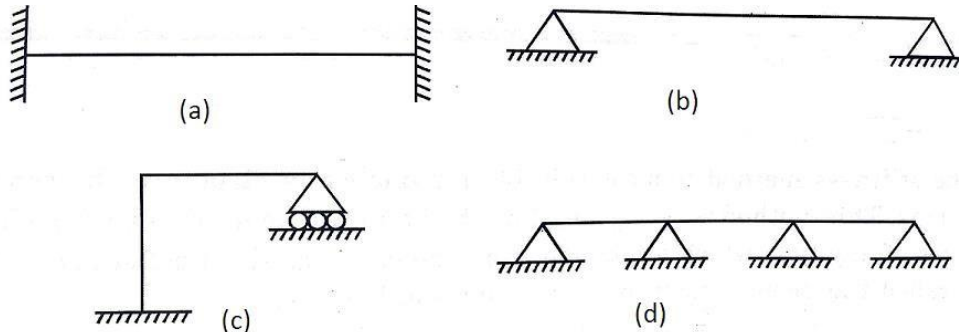

Figure 1.2
- Determine the kinematic indeterminacies of the frame & beams in Figure 1.2